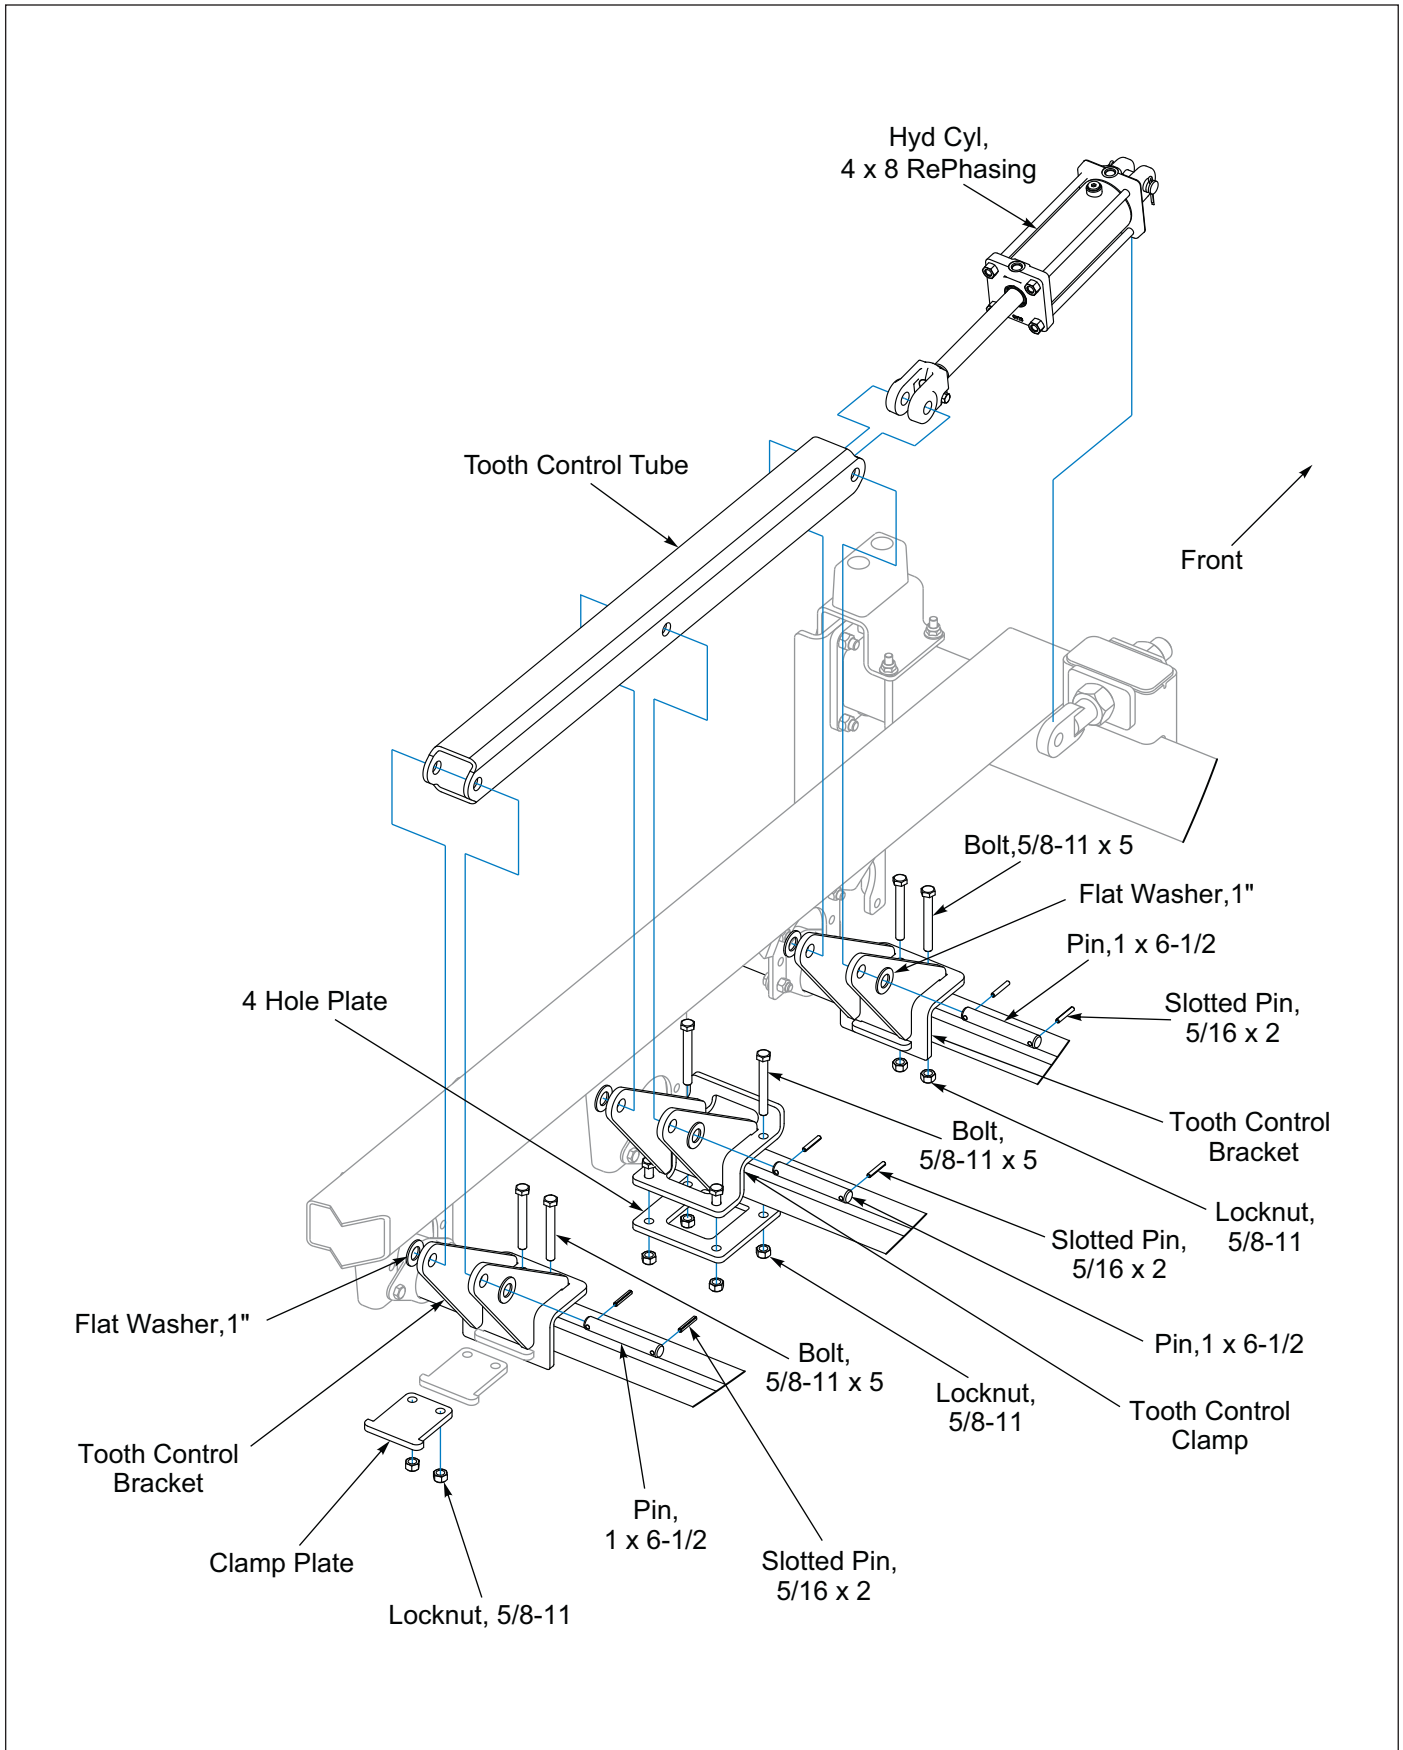

Figure 2-56: Left Hand Wing Tooth Control
1. Attach a Tooth Control Bracket on the top of the Front Tooth Tube by sliding a Clamp Plate into the Tooth Control Bracket Slot and under the Tooth Tube. Fasten with 5/8-11 x 5 Bolts and Locknuts, **Do Not** tighten at this time. **See Figure 2-56.**